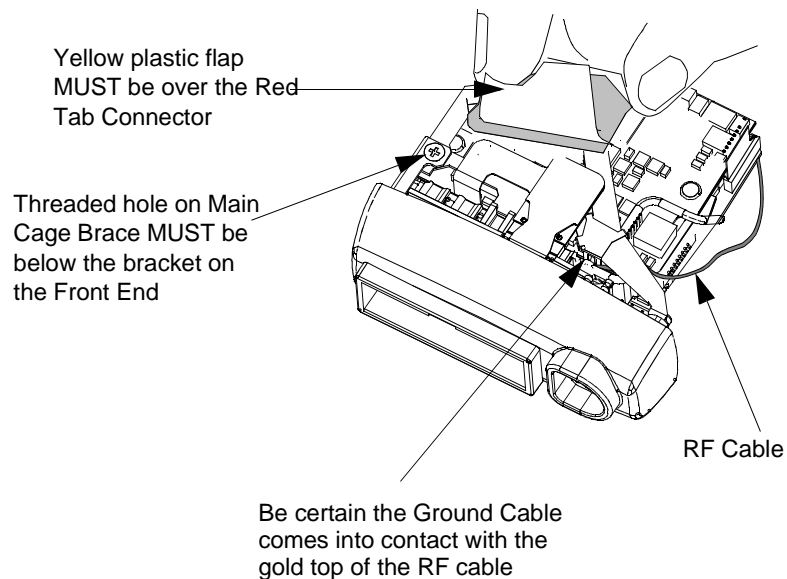

Figure 6-13 Lift Yellow Flap Over Red Tab Connector
Step 1. Lift the yellow plastic flap and place the Main Cage Brace under the red tab connector. See Figure 6-13.